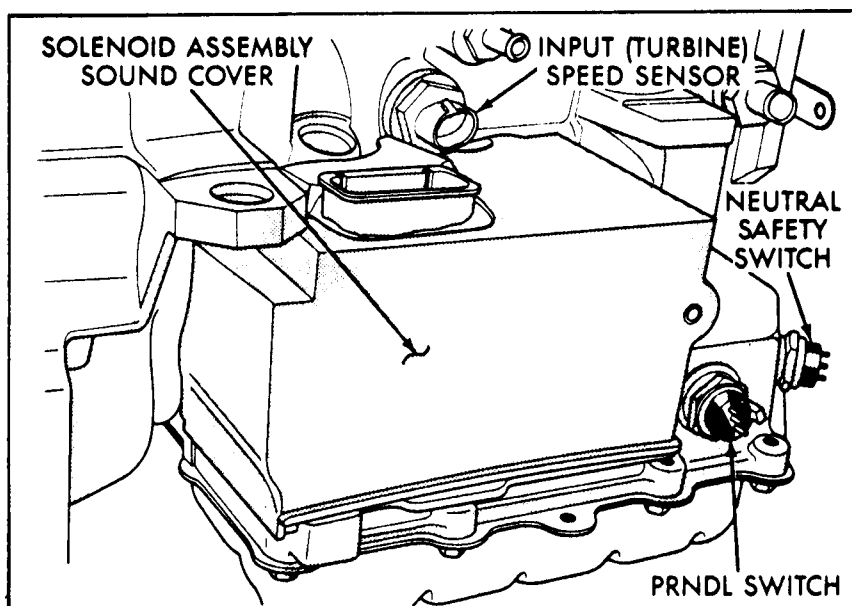

Figure 17
**CHANGE:** PRNODL Switch and Neutral Safety Switch have been changed for the 1990 model year, as well as the vehicle wiring harness connectors. Refer to Figure 17 for location of switches on the transaxle.